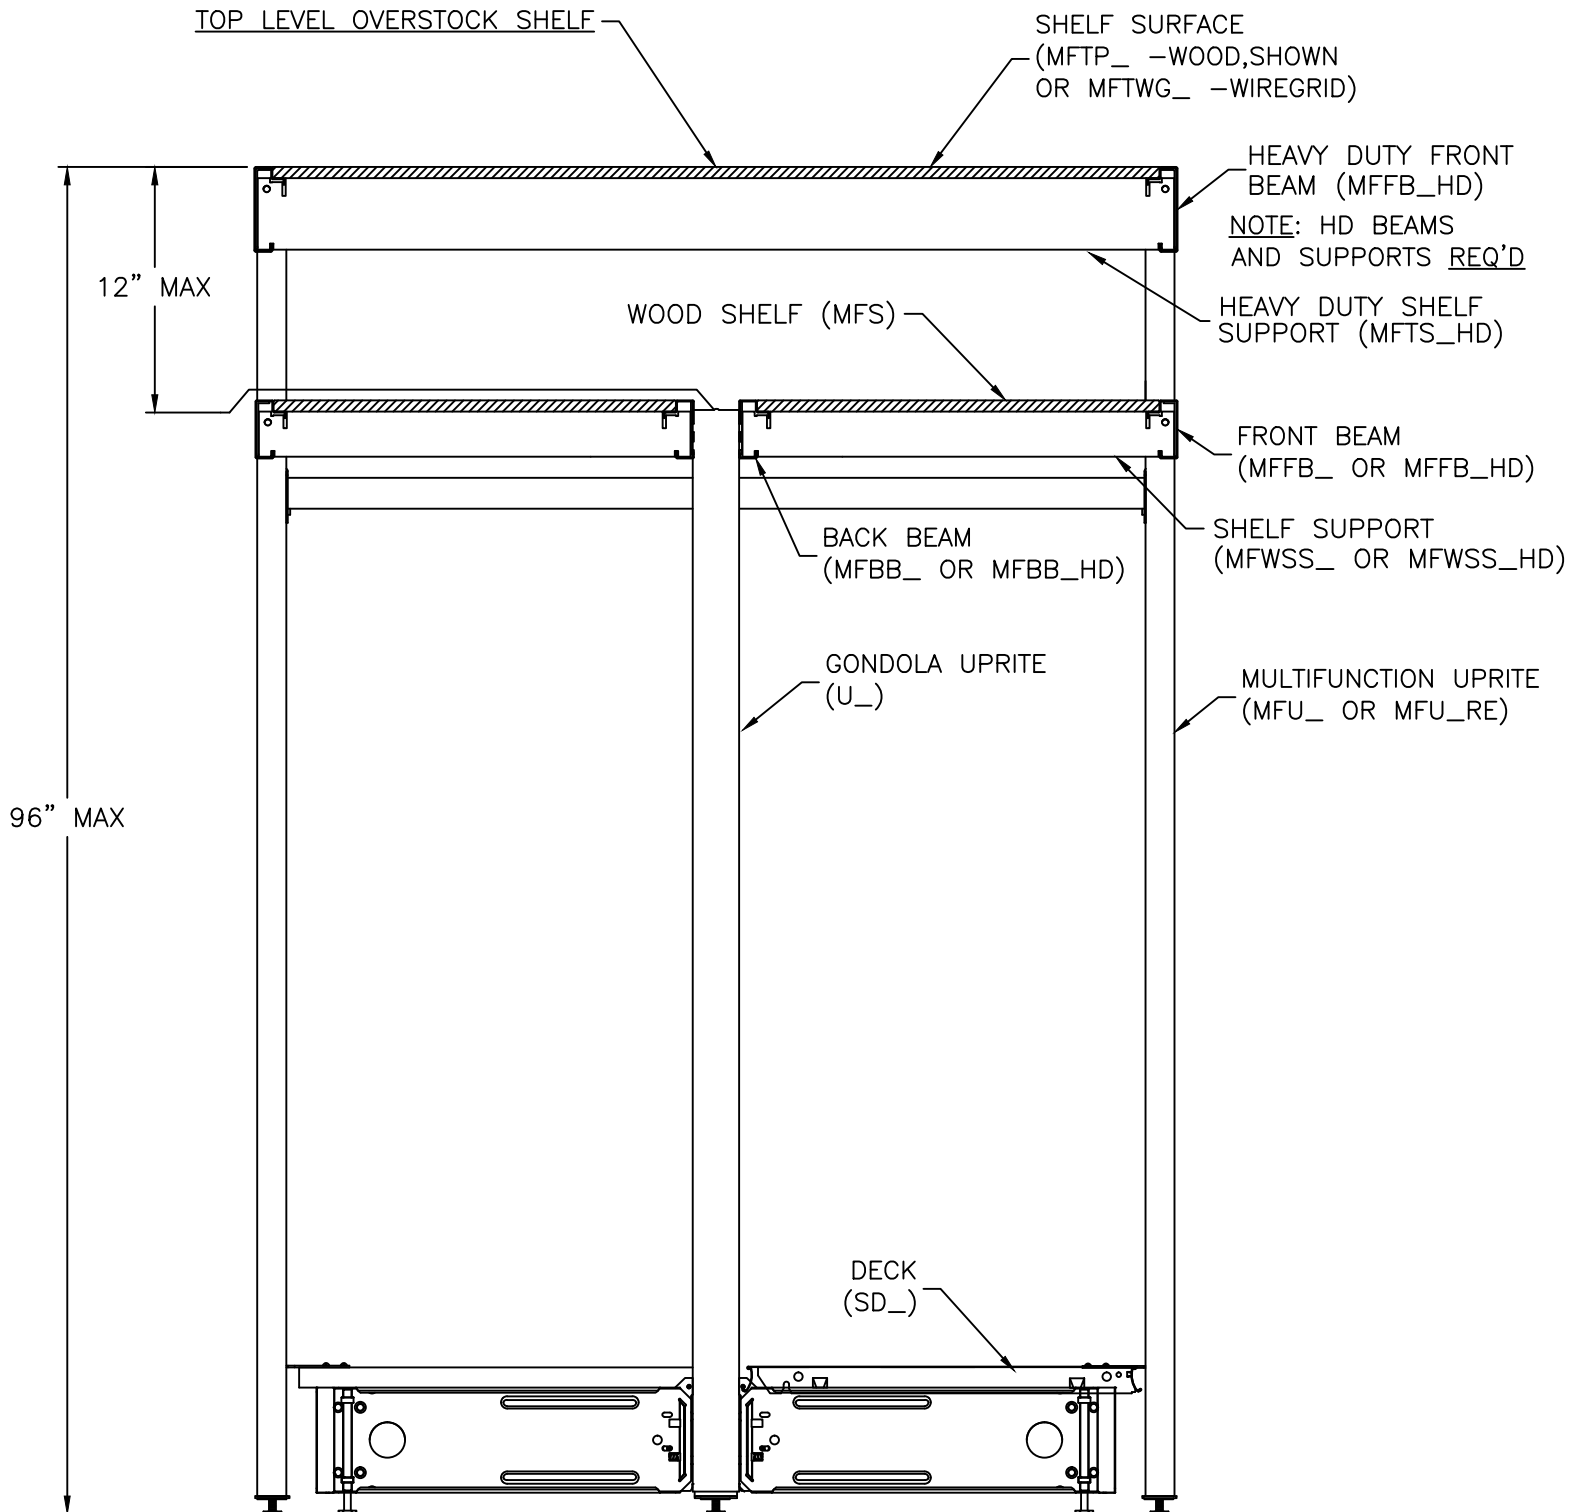

FIGURE 6
- e) See FIGURE 6 for a typical shelf installation.